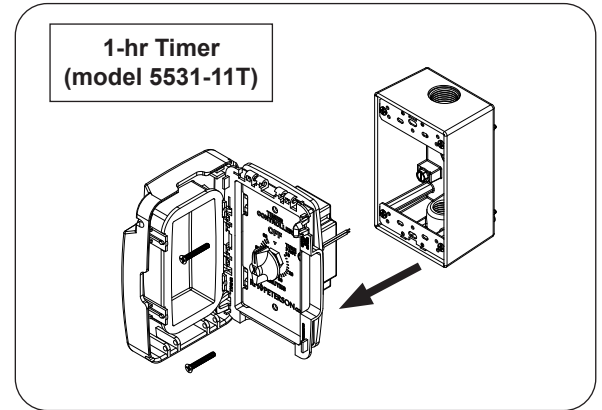

Fig. 7-1 Power source control(s)
1. Refer to the power source control instructions as applicable to separate the switch box from the assembly (if applicable). See Fig. 7-1.